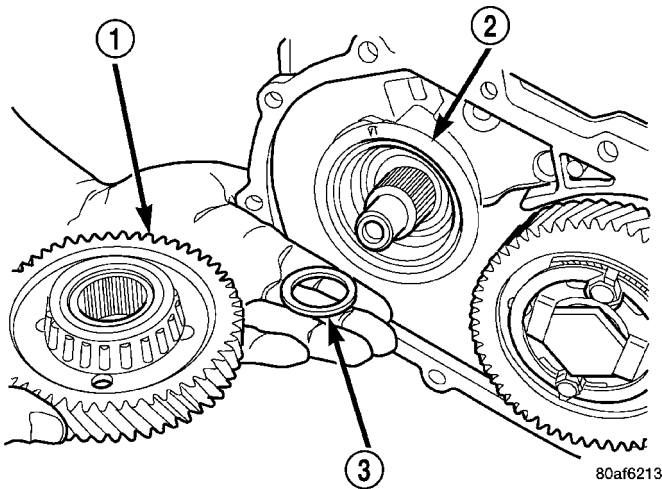

Fig. 55 Remove Transfer Shaft Gear and (Select) Shim
(39) Remove transfer gear shim (select) (Fig. 55).